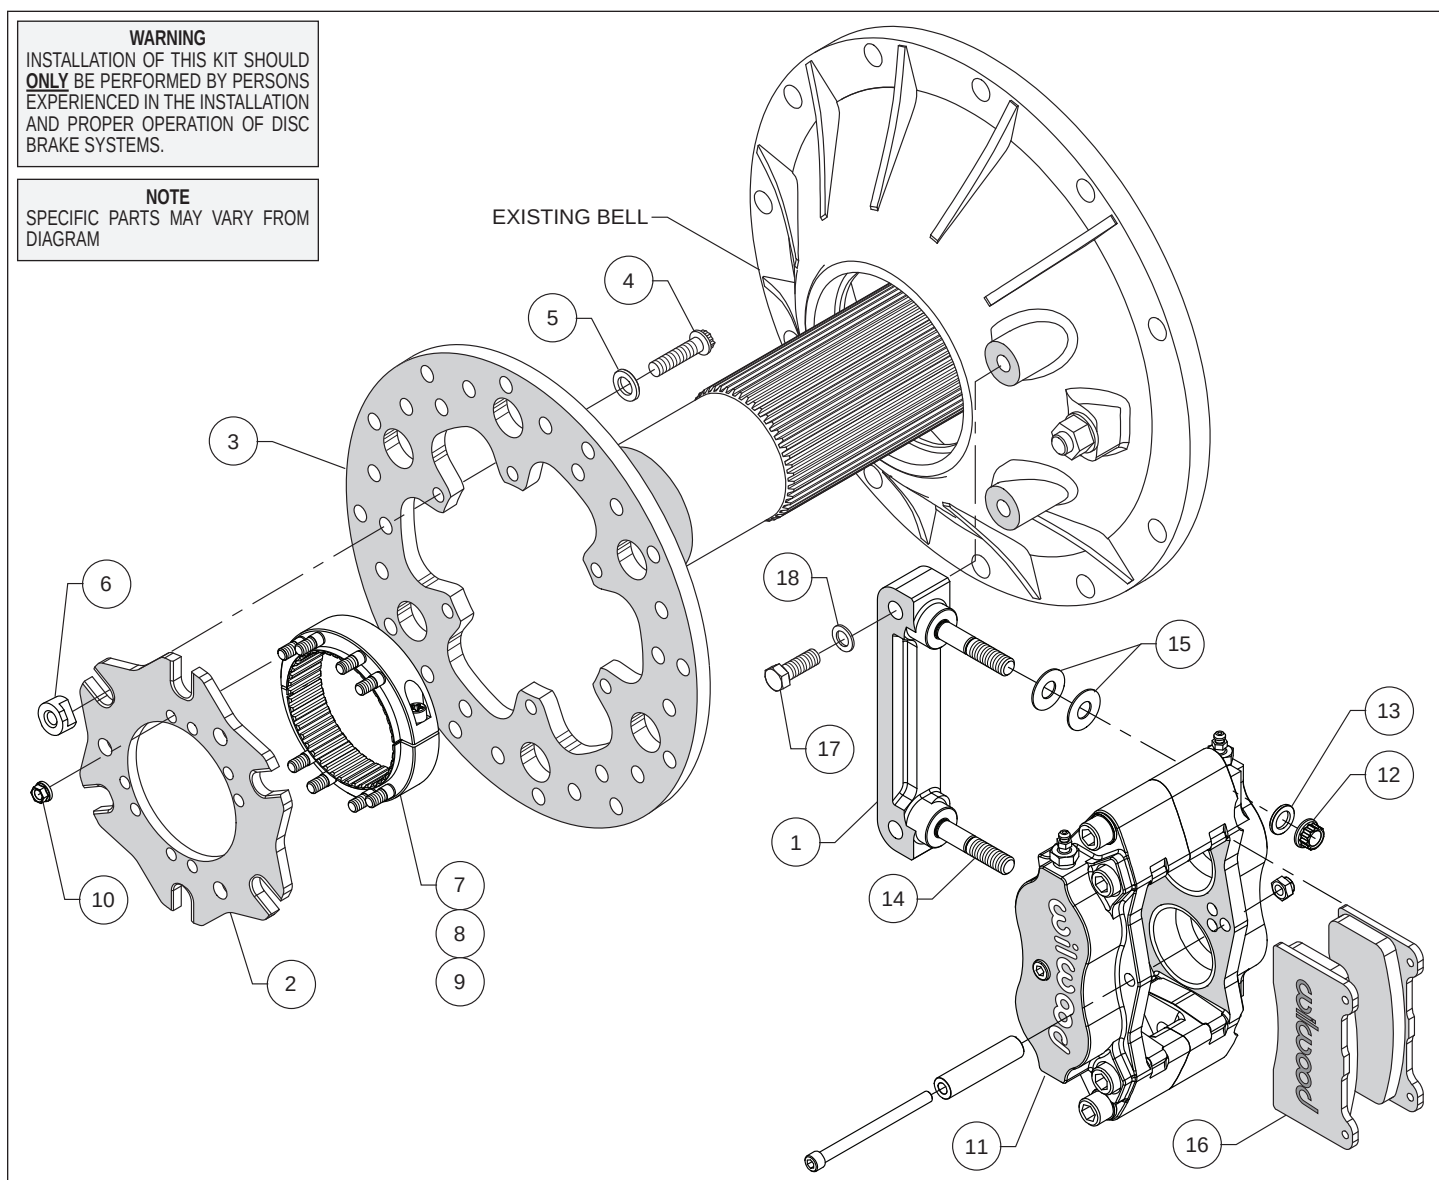

Figure 1. Typical Installation Configuration
- Orient the bracket (1) as shown in Figure 1, and install using bolts (17), and washers (18). Temporarily tighten the mounting bolts. **NOTE:** The bracket must fit squarely against the mount bosses on the bell. Inspect for interference from casting irregularities, machining ridges, burrs, etc. Remove the bracket mounting bolts one at a time, apply red *Loctite*® 271 to the threads, and torque to 35 ft-lb.
- Orient the rotor adapter (2) and the rotor (3), as shown in Figure 1, and attach using bolts (4), washers (5) and t-nuts (6), Figure 1. Apply red *Loctite*® 271 to the threads before installing. Finger tighten. After all t-nuts have been installed, torque bolts in an alternating sequence to 220 in-lbs. Please refer to Wilwood's data sheet DS-669 (available at www.wilwood.com/Pdf/DataSheets/ds669.pdf) for complete t-nut bolt kit installation instructions.
- Orient the axle clamp assembly (7, 8 and 9, pre-assembled) as shown in Figure 1 and install onto the rotor adapter (2) using nuts (10). Tighten nuts part way while still allowing clamp-to-rotor movement. The nuts will be torqued later, after aligning the rotor. **NOTE:** *The axle clamp should be positioned inside of the rotor as shown in Figure 1, not offset, or outside of the rotor adapter.*
- Lubricate the caliper mounting studs (14) with lightweight oil. Initially place two .035" thick shims (15) on each stud as shown in Figure 1. Mount the caliper (11) onto the bracket (1) using lock nuts (12) and washers (13), Figure 1. Temporarily tighten the lock nuts and view the rotor through the top opening of the caliper. The rotor should be centered in the caliper. If not, slide the rotor/adapter assembly on the axle until the rotor is centered in the caliper. Tighten the clamp bolts (9) first, locking the clamp to the axle. Torque nuts (10) to 140 in-lbs.
- Remove the caliper center bridge pad retainer bolt, nut, and tube from the caliper. Insert the brake pads (16) into the caliper, with the friction material facing the rotor. Check that the top of the brake pad is flush with the outside diameter of the rotor. If not, adjust by adding or subtracting shims (15) between the caliper and the bracket. After the caliper pad height is set, torque the caliper lock nuts (12) to 30 ft-lb. Secure the brake pads in place with the center bridge pad retainer tube, bolt, and locknut. The locknut should be snug without play in the bolt or tube. Be cautious not to over tighten.